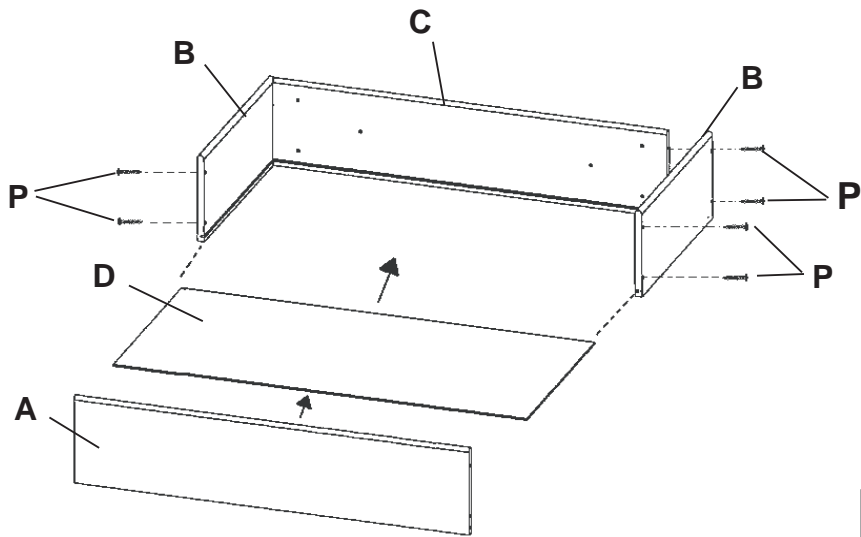

Fig 7
7. Attach two Drawer Sides (B) to one of the Drawer False Fronts (C) with #8 x 1-1/4" Black Screws (P) through the predrilled holes in the sides. The grooves for the Drawer Bottom must line up. Slide the Drawer Bottom (D) into the grooves. Attach the Drawer End (A) to the Sides in the same manner. See Figure 7. Repeat for the other five drawers.